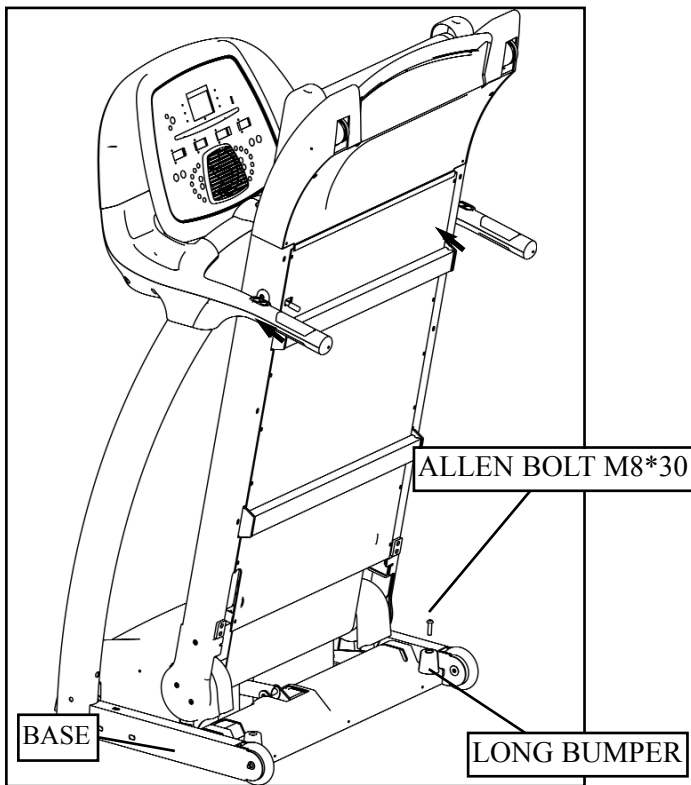
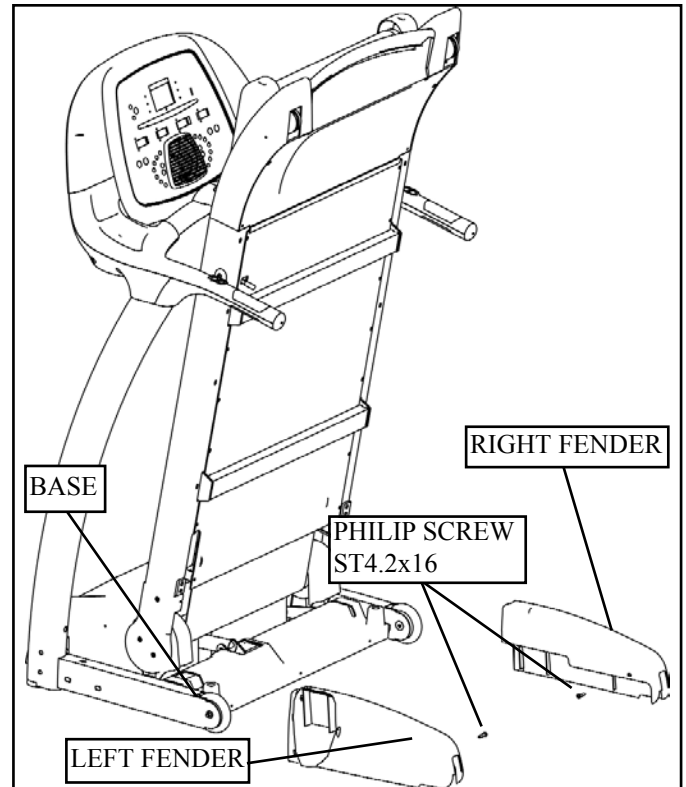

Figure 7a: Long Bumper Removal
Figure 7b: Left and Right Fender Installation
8. Remove the two Long Bumpers from base of treadmill as shown in Figure 7a. Install the Left and Right Fender to Base using Philip Screw ST4.2X16 as shown in Figure 7b. Reinstall both Long Bumpers.